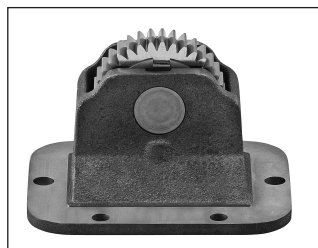

Figure 17
1. A geared adapter section (**Fig. 17**).